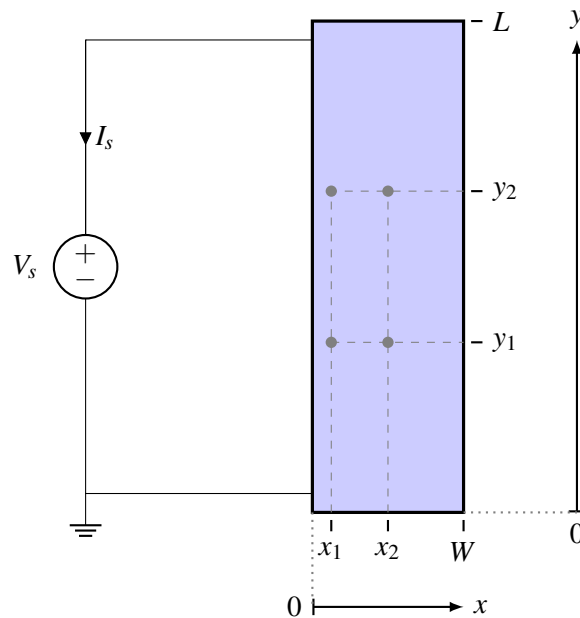
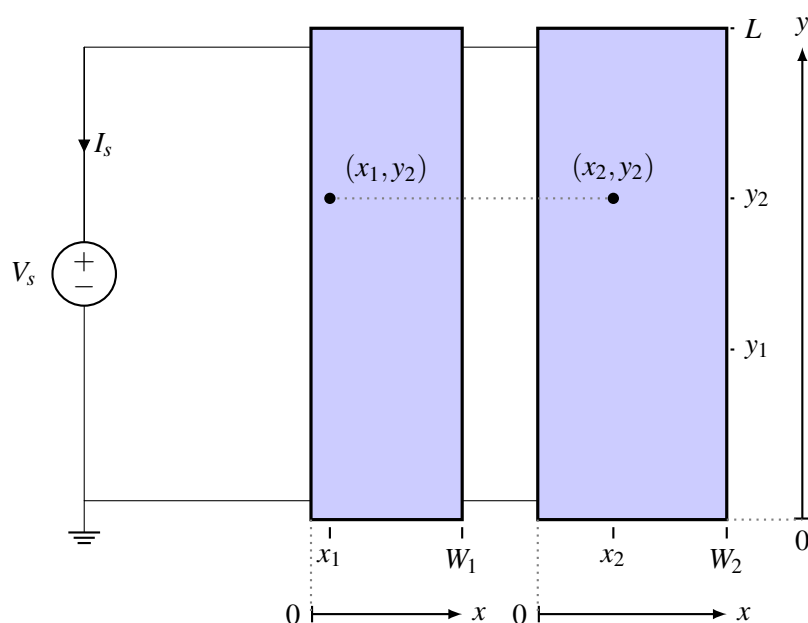

Figure 3: Top view of resistive touchscreen (not to scale). z axis i.e. the thickness not shown (into the page).
Figure 6: Top view of two touchscreens wired in parallel (not to scale). z axis not shown (into the page).
Figure 3 shows the top view of a resistive touchscreen consisting of a conductive layer with resistivity ρ_1 , thickness t , width W , and length L . At the top and bottom it is connected through perfect conductors ($\rho = 0$) to the rest of the circuit. The touchscreen is wired to voltage source V_s .
- Draw a circuit diagram representing **Figure 3**, where the entire touchscreen is represented as a *single resistor*. **Note that no touch is occurring in this scenario.** Remember that circuit diagrams in general consist of only circuit elements (resistors, sources, etc) represented by symbols, connecting wires, and the reference/ ground symbol. Calculate the value of current I_s based on the circuit diagram you drew. *Do not forget to specify the correct unit as always, and double check the direction of I_s !*
- (f) **Figure 6** shows a new arrangement with two touchscreens. The two touchscreens are next to each other and are connected to the voltage source in the same way. The second touchscreen (the one on the right) is identical to the one shown in Figure 3, except for different width, W_2 , and resistivity, ρ_2 . Use the following numerical values in your calculations: $W_1 = 50$ mm, $L = 80$ mm, $t = 1$ mm, $\rho_1 = 2 \Omega\text{m}$, $V_s = 5\text{V}$, $x_1 = 20$ mm, $x_2 = 45$ mm, $y_1 = 30$ mm, $y_2 = 60$ mm, which are the same values as before. The new touchscreen has the following numerical values which are different: $W_2 = 85$ mm, $\rho_2 = 1.5 \Omega\text{m}$. Draw a circuit diagram representing **Figure 6**, where the two touchscreens are represented as *two separate resistors*. **Note that no touch is occurring in this scenario.**
- (h) Consider the two points: (x_1, y_2) in the touchscreen on the left, and (x_2, y_2) in the touchscreen on the right in **Figure 6**. Show that the node voltage at (x_1, y_2) is the same that at (x_2, y_2) , i.e. the potential difference between the two points is 0. You can show this without explicitly calculating the node voltages at the two points.